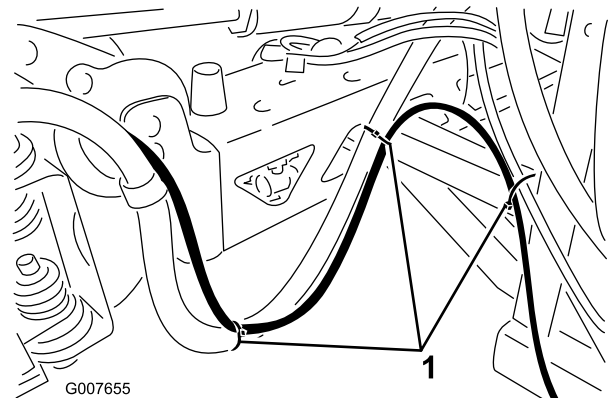

Figure 10
- C. Continue to route the hose along the exiting boom supply hose. Use plastic ties to secure the hose to the brace at the positions shown in Figure 10.